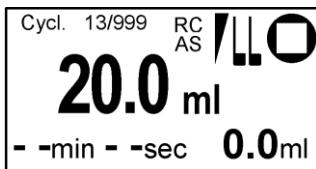

Fig. 45: Main display
- ➔ Main display appears (see Fig. 45)